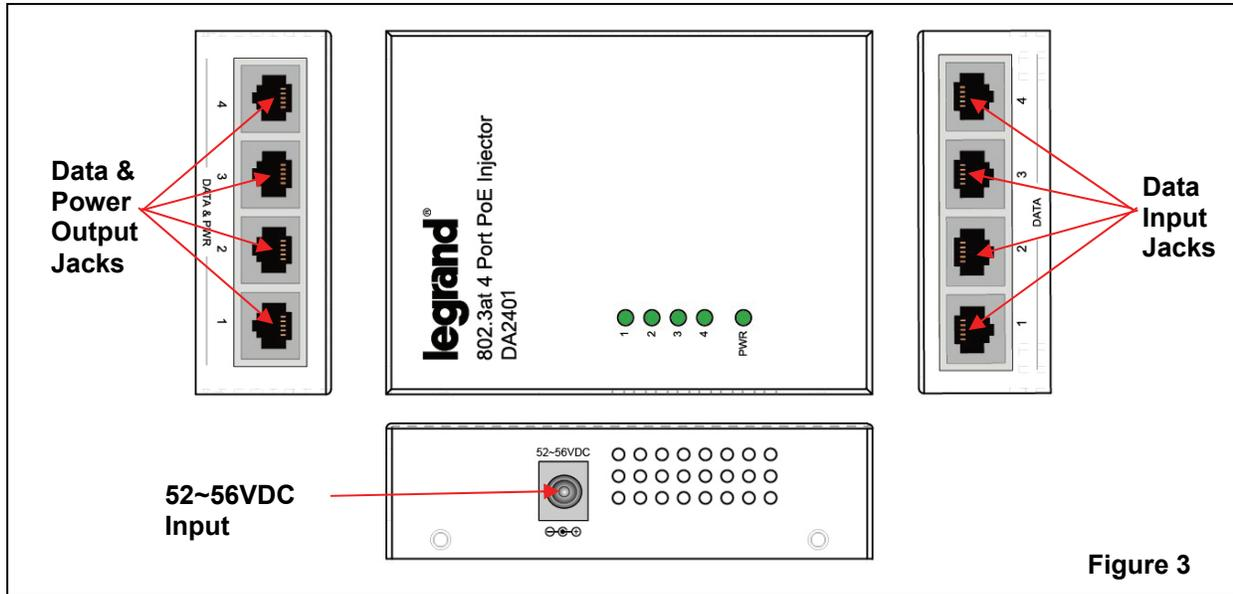

Figure 3
- Figure 3 shows the DA2401 connection area including: